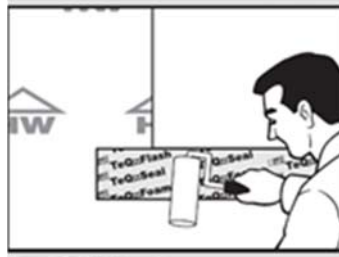

Figure 4
2.2.1 Roll smooth to ensure air bubbles are removed and intimate contact is made between substrates (Figure 4).